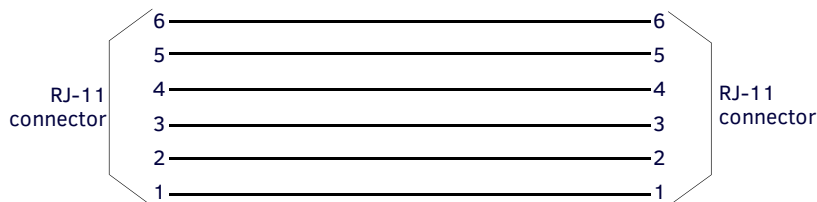

FIG. 12 RJ-11 wiring diagram
- FIG. 12 diagrams the RJ-11 cable and connectors.